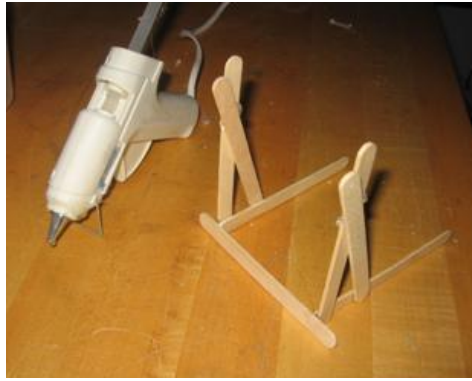

Figure 2. The base of the catapult.
2. Build each upright and connect the two pieces together as shown in Figure 2.